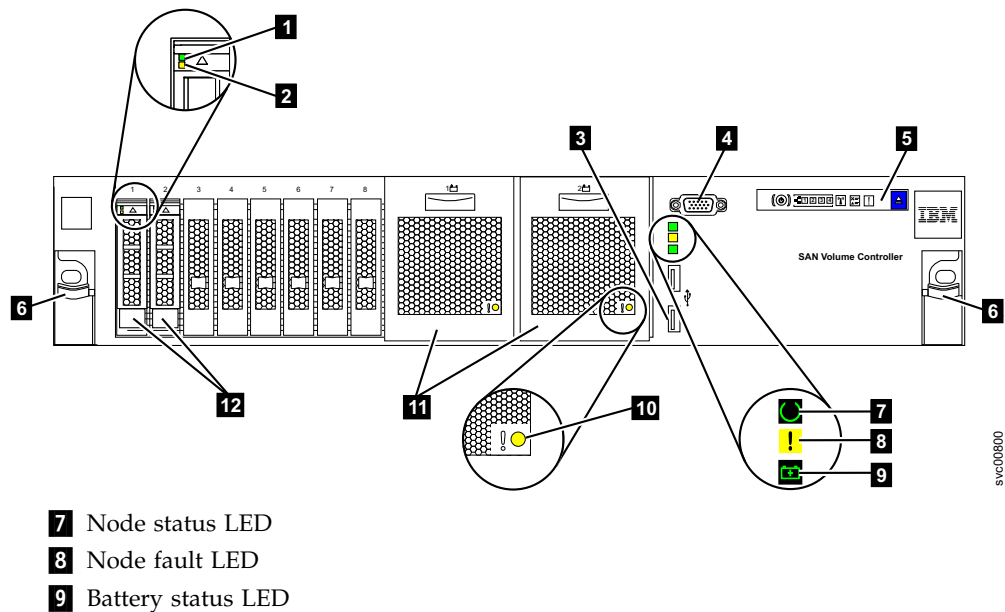

Figure 71. SAN Volume Controller 2145-DH8 front panel
Is the hardware boot display that you see in Figure 70 on page 307 displayed on the node? (SAN Volume Controller 2145-DH8 does not have a front panel display. For this 2145-DH8 model, are the node status LED, node fault LED, and battery status LED that you see in Figure 71 on page 307 all off?)
- Has the hardware boot display that you see in Figure 70 displayed for more than 3 minutes? For 2145-DH8, have the node status LED, node fault LED, and battery status LED that you see in Figure 71 all been off for more than 3 minutes?**
Or, is the node fault LED (8 in Figure 71) on the front panel of a SAN Volume Controller 2145-DH8 on?**
- Figure 71 shows the node fault LED.
Or, is the node fault LED, which is the middle of the 3 status LEDs on the front panel of a SAN Volume Controller 2145-DH8, on? Figure 71 on page 307 shows the node fault LED.